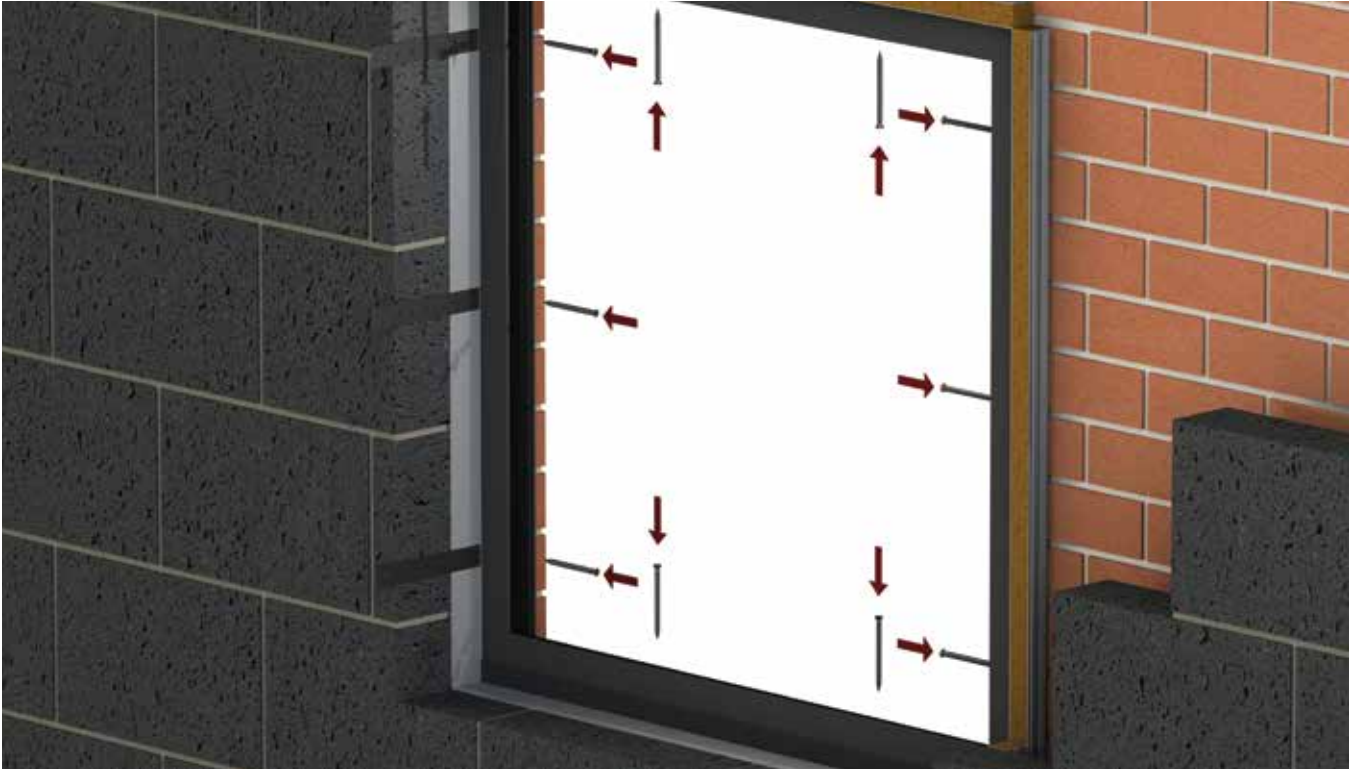

FIG 3
- Fixings should be at no greater than 600mm apart and there should be the minimum of two fixings on each side. On windows over 1800mm wide, central head and cill fixings should be provided. (Fig.3)